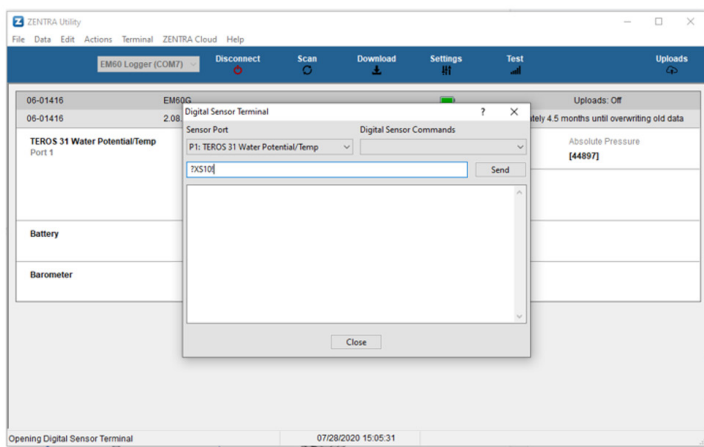

Figure 17 Send shaft length command to TEROS 31
4. Select the required sensor port and send the shaft length command `XS<value>!` (replace `<value>` with the shaft length between 0 and 20 cm) (Figure 17).